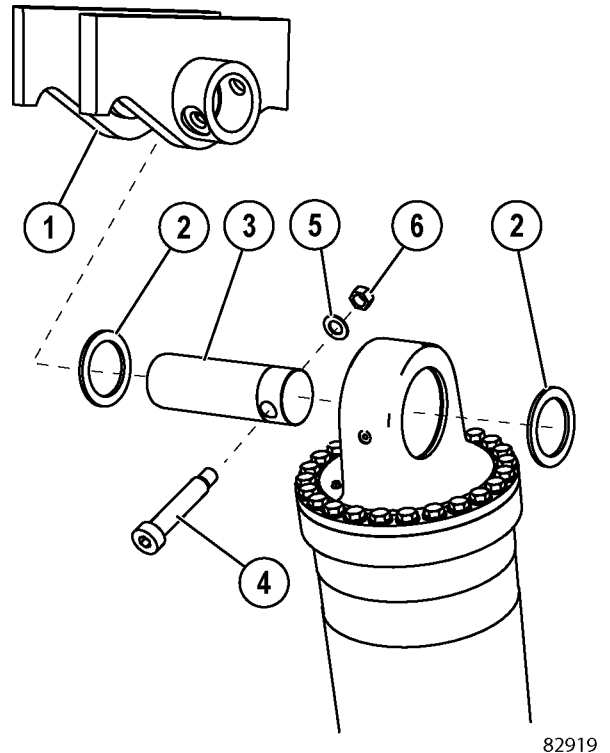

FIGURE 3-2. HOIST CYLINDER UPPER MOUNT
4. At the hoist cylinder upper mounting bracket, remove nut (6, Figure 3-2), flat washer (5) and shoulder bolt (4). Use a brass drift and hammer to drive pivot pin (3) from mounting bracket (1).
5. Align the hoist cylinder bearing eye with the bore of hoist cylinder upper mounting bracket (1, Figure 3-2).
6. Align the bolt hole in pivot pin (3) with the bolt hole in mounting bracket (1). Install the pivot pin through the first spacer (2), then align the second spacer with the bore on the other side of hoist cylinder bearing eye. Finish installing the pin through second spacer (2).
7. Install shoulder bolt (4) through each pin.